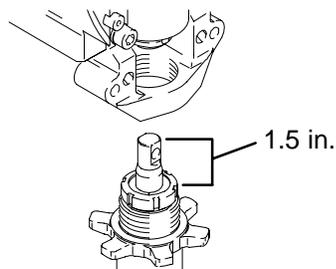

Fig. 11
1. Fig. 11. Pull piston rod out 1.5 in. Screw in pump until holes in bearing cross link and piston rod align.